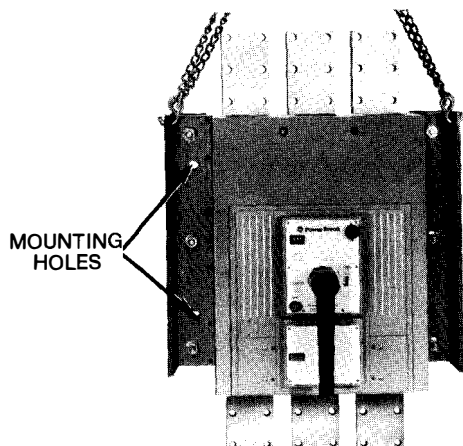

Figure 1. 4000A Frames
Use (4) $\frac{5}{8}$ -inch bolts through clearance holes as shown in Figure 1. Torque to 600 inch-pounds.